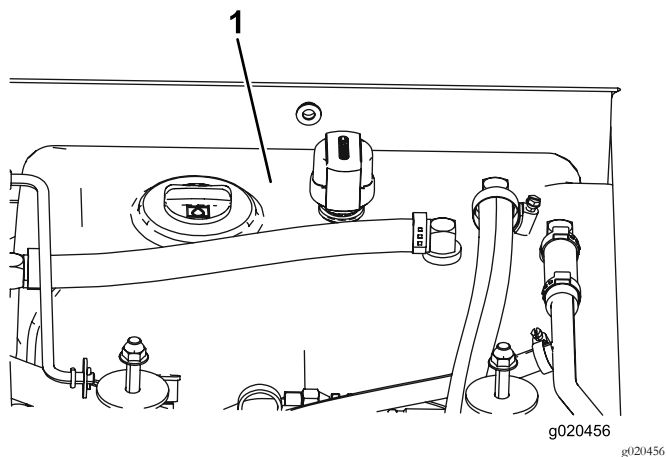

Figure 72
3. Fill the reservoir (Figure 72) with hydraulic fluid; refer to Checking the Hydraulic Fluid.